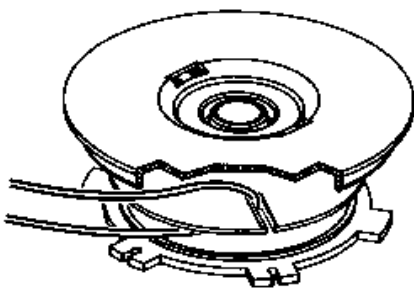

Fig. 15
4. Cut a 14' (4.3 m) length of replacement trimming line. Double it over, using 0.095 in (2.43 mm) trimming line. Place the looped center in one of the slots in the spool divider (Fig. 15).